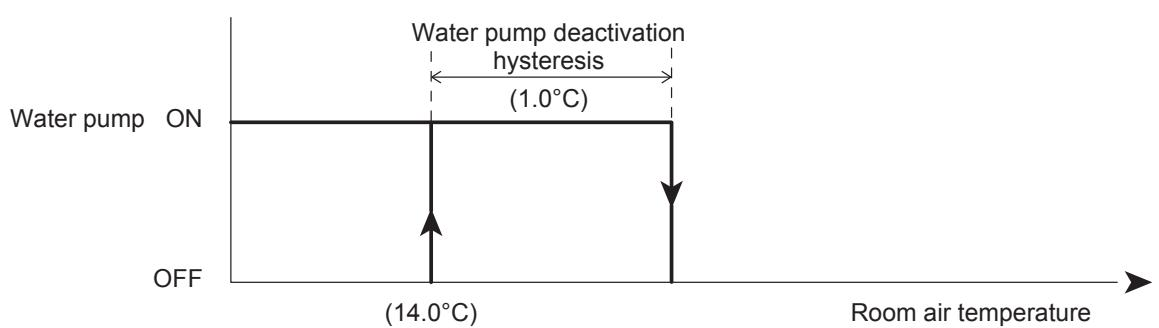

Figure 8-19: Frost protection (room air temperature) - water pump
- Room air temperature - refer to Section 8.4.3 and Figure 8-19.